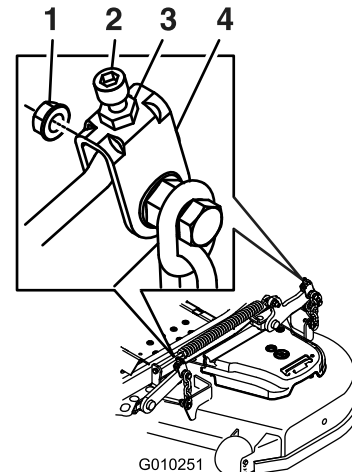

Figure 96
11. For mower decks shown in Figure 96, fine-tune the adjustment nut on the front deck lift assembly by turning it (Figure 96).